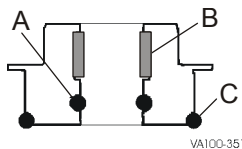

Figure 21 - Standard Top Adapter
2. Remove and replace the o-ring (Figure 21, item A) inside the adapter. For the flush/steam barrier adapters, see Figure 4 on page 13 and Figure 7 on page 14, respectively.
3. Check the split bearing (Figure 21, item B) inside the adapter by feeling the amount protruding from the adapter wall. If the bearing is flush with the wall, replace the bearing.
2. Slide or cut the outer o-ring (Figure 21, item C) off the adapter. Do not nick or scratch the o-ring groove.